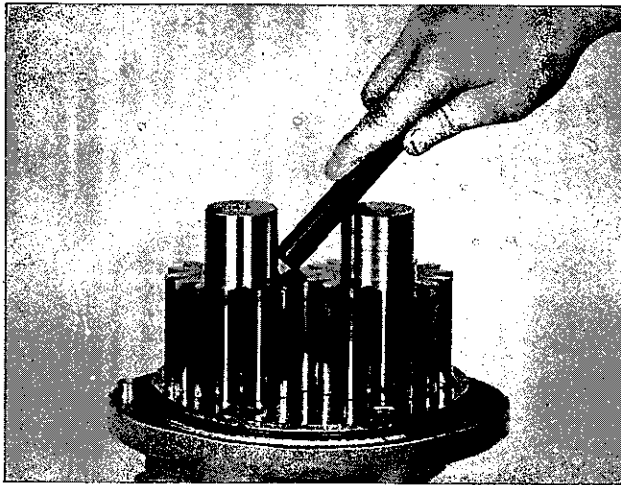

Figure 7
10. Remove housing and mark the DRIVE gear and DRIVEN gear with an India oil stone. (See Figure 7).